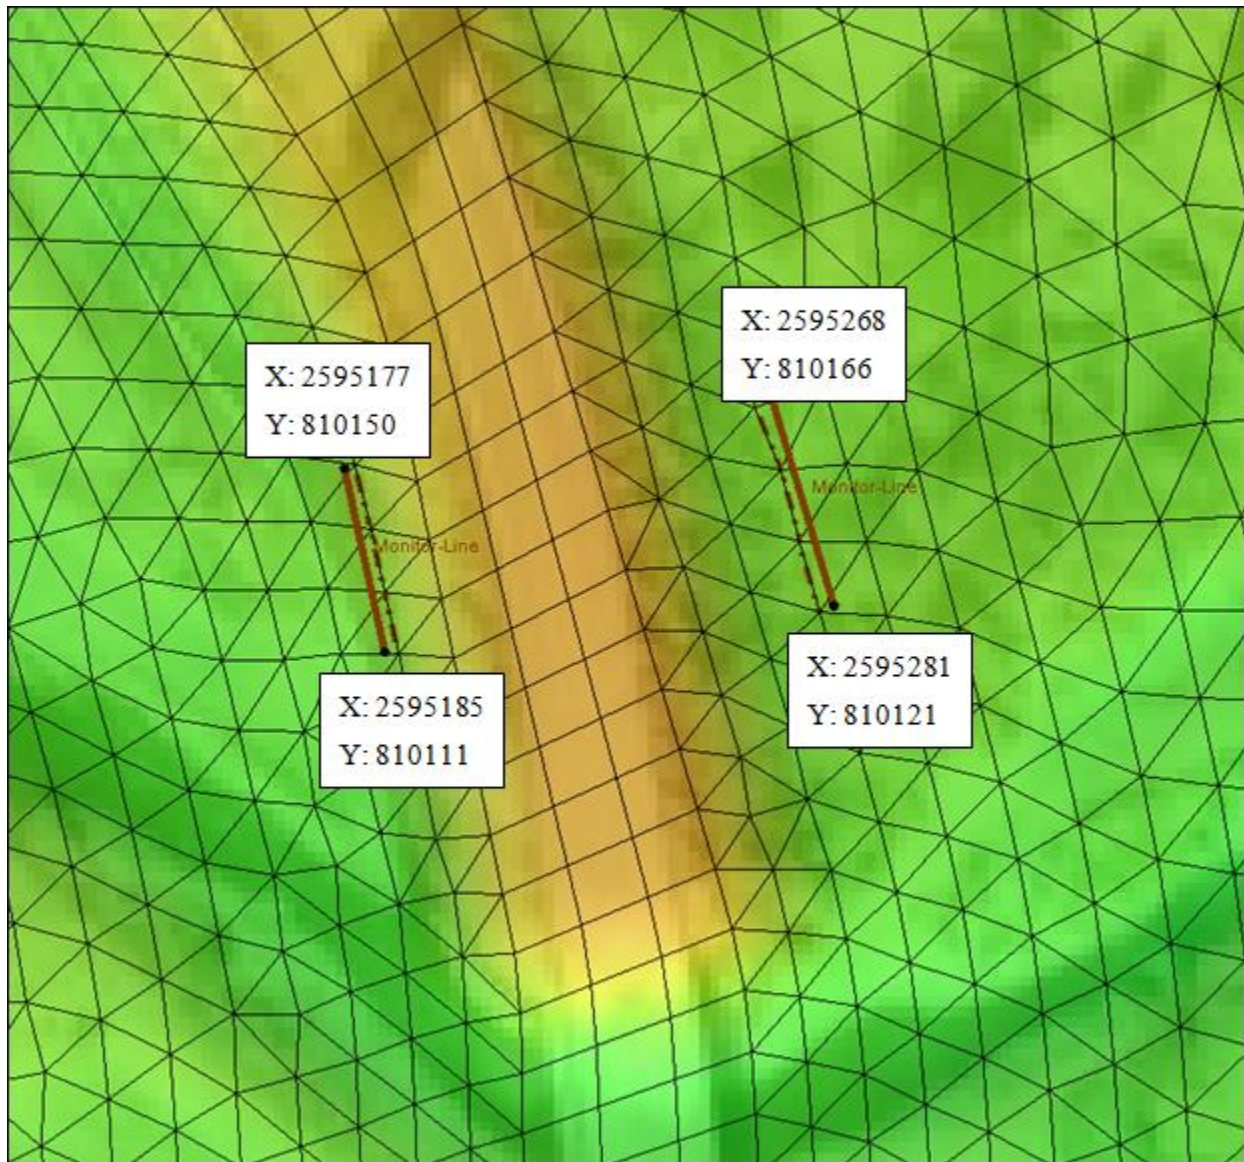

Figure 4 Coordinate Location of Arc End Nodes
7. For consistency, change the coordinate locations of each of the 4 end nodes on the arcs to the coordinates shown in Figure 4. To do this, use the **Select Feature Point**  tool to select a point at the end of an arc and manually enter the X and Y values into the boxes at the top of the SMS window.